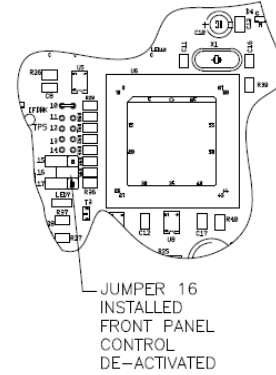

Figure 23: Jumper Location - Front Panel Lockout
3. Place the jumper across the two (2) pins at location 16 on the main PC board (See Figure 23).